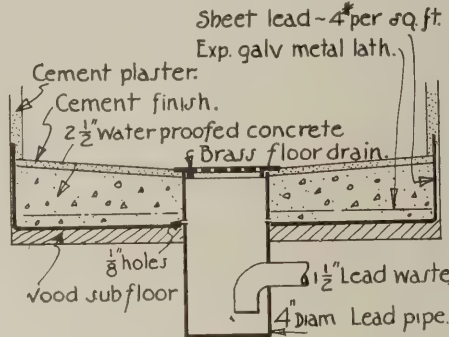

Fig. 5—Floor construction in shower bath
J. E. N., of Lake Charles, Louisiana, forwards this letter to accompany Fig. 5: "Frequently in medium price work where a number of shower baths are used the cost will not permit the use of porcelain receptors, and it is difficult to make a satisfactory job. The sketch shows the construction of a floor trap and drain that is both satisfactory and economical. As shown, the sub floor is first put in place, it is then covered with No. 4 sheet lead, which is run up the sides of walls about six inches, with all joints made tight with solder.